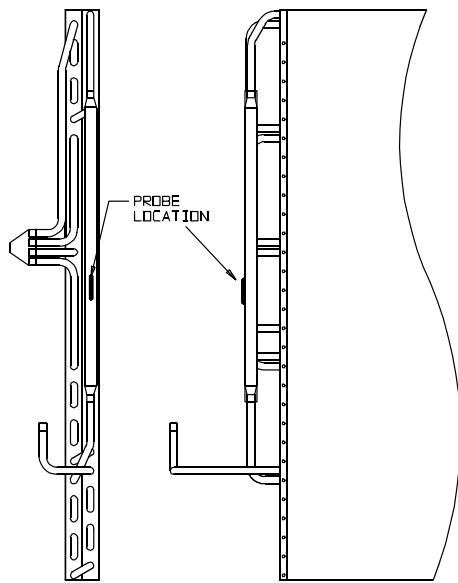

FIGURE 2 - PROBE LOCATION
9. Place the temperature probe on the intermediate header on the condenser coil. See Figure 2.